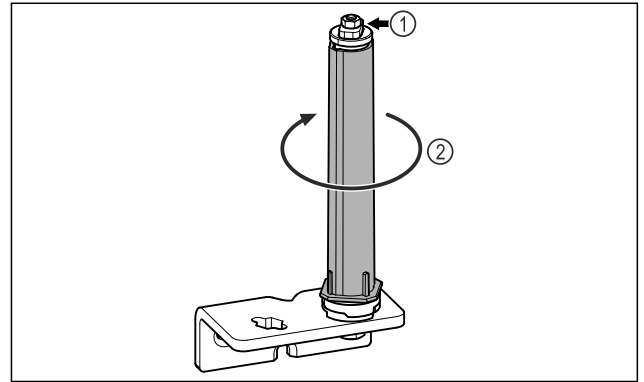

Fig. 21
- ▶ Do not dismantle the door locking system Fig. 21 (1).
- ▶ Turn the locking system Fig. 21 (2) until it clicks.